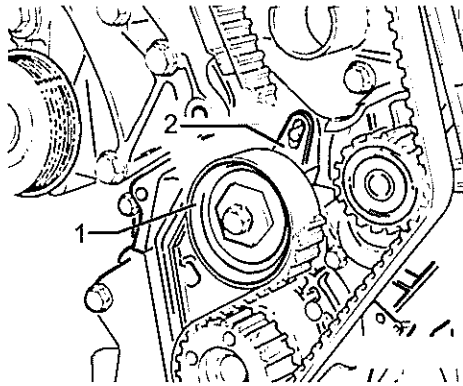

Fig 30 Install tensioner
114 Install tensioner (see Fig 30 (1)) so that tab (see Fig 30/2) of tensioner is seated in anti-twist pin of lower section of camshaft belt guard (see Fig 22 (10)).